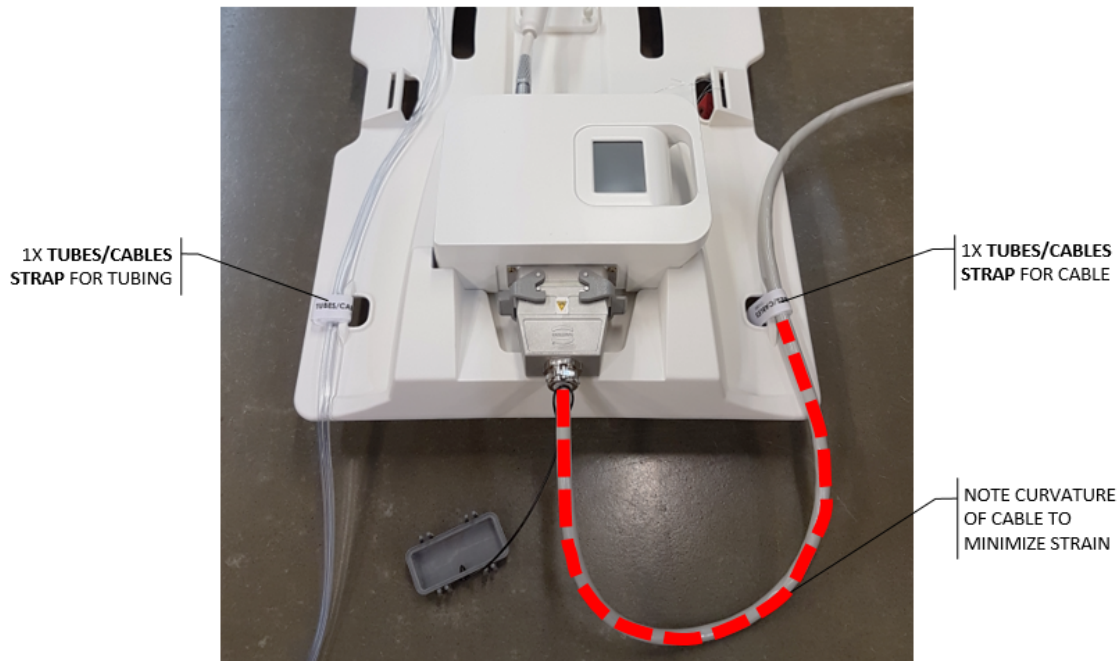

Figure 26: Tube-and-cable straps of base plate: one for tube sets and one for RF cable
4. **MRI Technologist:** Use tube-and-cable straps to manage fluid tubes and the white RF cable as shown in *Figure 26*. Leave some slack to allow the cables to slide freely and to reduce tripping hazards. Ensure no cables, tubing, or other materials can be caught while the MRI table is moving.